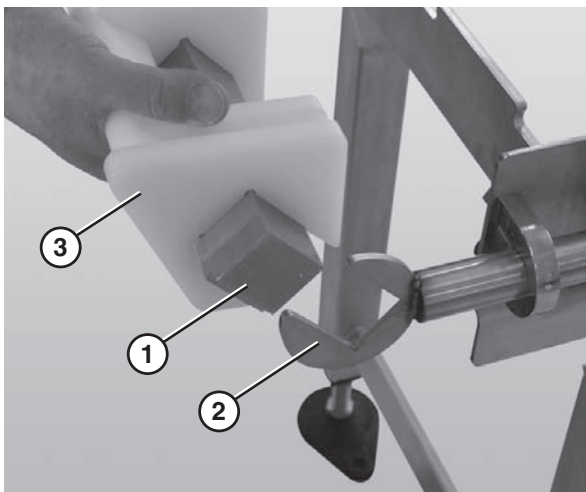

Figure 67
- Slide the nose bar drive or transfer post (**Figure 67, item 1**) out of the nose bar drive weldment or idler hands (**Figure 67, item 2**).
- Remove the nose bar tracking pucks (**Figure 67, item 3**), if applicable.